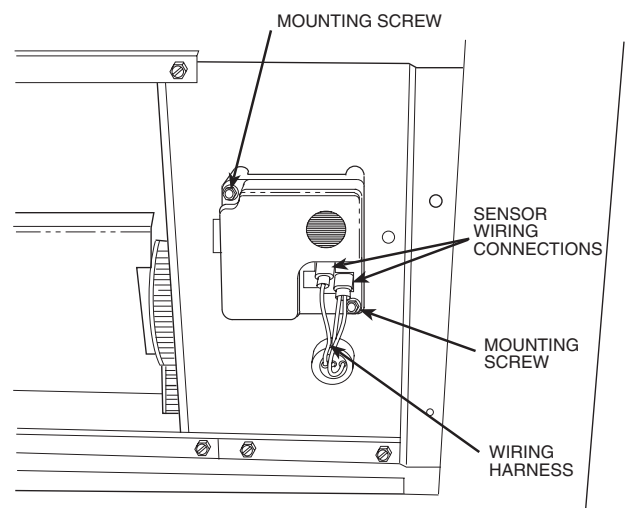

Fig. 23 — Outdoor-Air Sensor Details
2. Disconnect the wiring from the installed outdoor air temperature sensor. See Fig. 23.